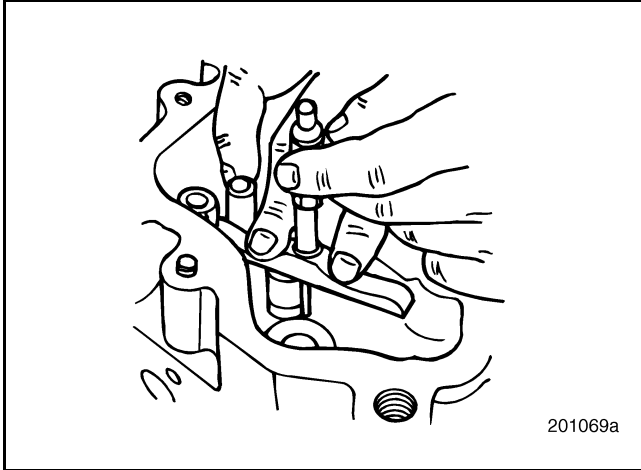

Figure 257 — Checking Valve Guide Extension
- Use a depth gauge to check valve guide extension (Figure 257).
- Using the depth gauge, check the extension of the guide from the valve spring seat to the top end of the guide. Refer back to Figure 257.